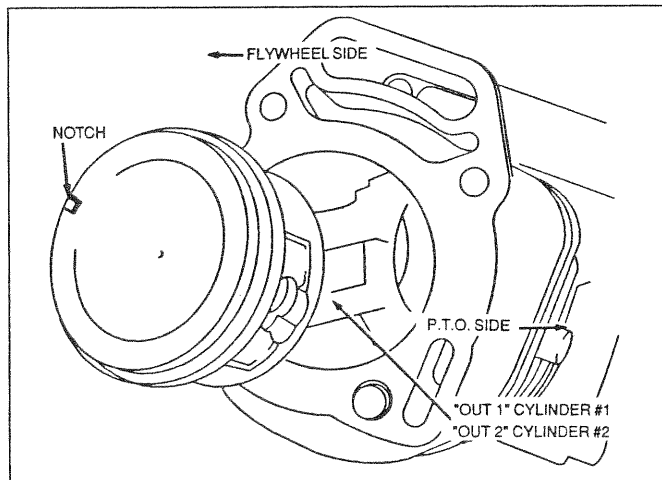

Figure 30. Positioning of Piston Assembly
NOTE: *Pistons have offset piston pin bores. When notch on piston is facing toward the flywheel side of engine, the words "OUT1" for cylinder No. 1, and "OUT2" for cylinder No. 2 should face toward the PTO end of the crankcase. See Figure 30.*
- Insert connecting rod and piston down through cylinder bore, with positioning correct as shown in Figure 30. As the piston enters the cylinder bore, the ring compressor will be pushed off the piston. When all rings are in the cylinder bore, remove the ring compressor.